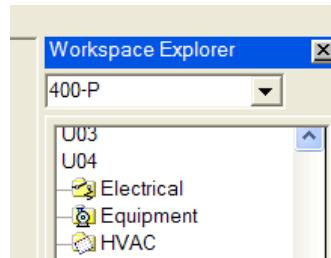

Figure 13: Selecting a Pipeline by Name
5. Key-in **400-P** in the name field of the WorkSpace Explorer as shown in Figure 13 and Enter.